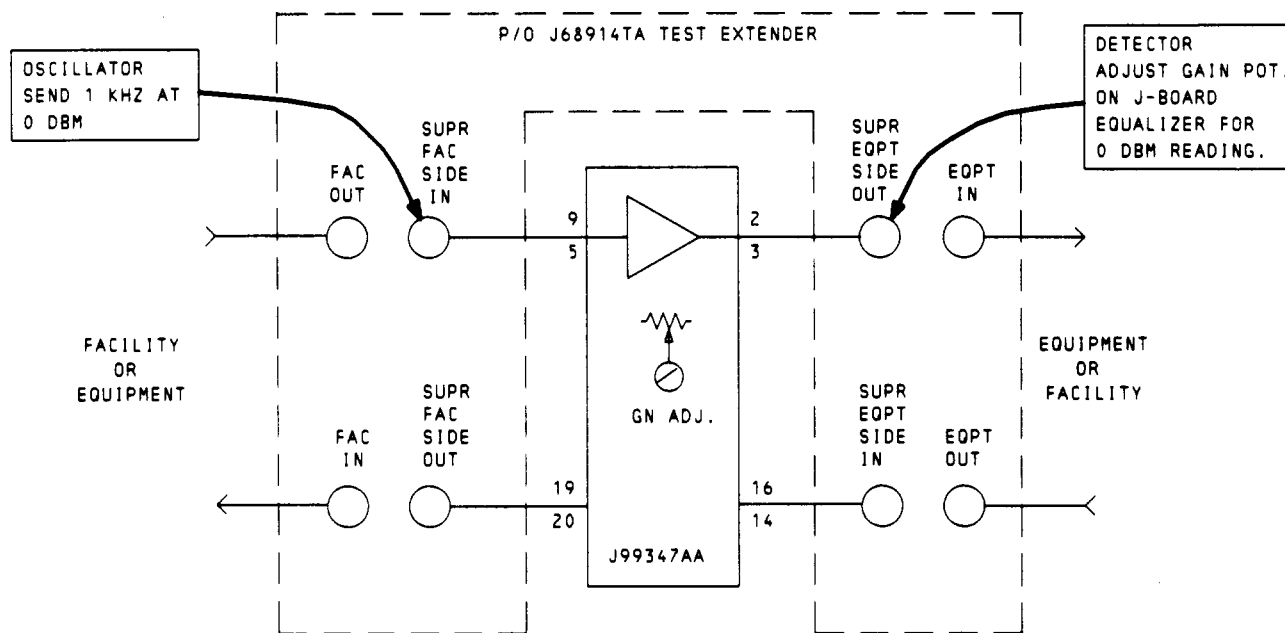

Fig. 2—Gain Adjustment Connections for J99347B Bay or Logic Position of 4A Echo Suppressor
**A. J99347B-L1 Bay (or logic position of 4A Echo Suppressor shelf or bay)—Using J68914TA Test Extender—Fig. 2**